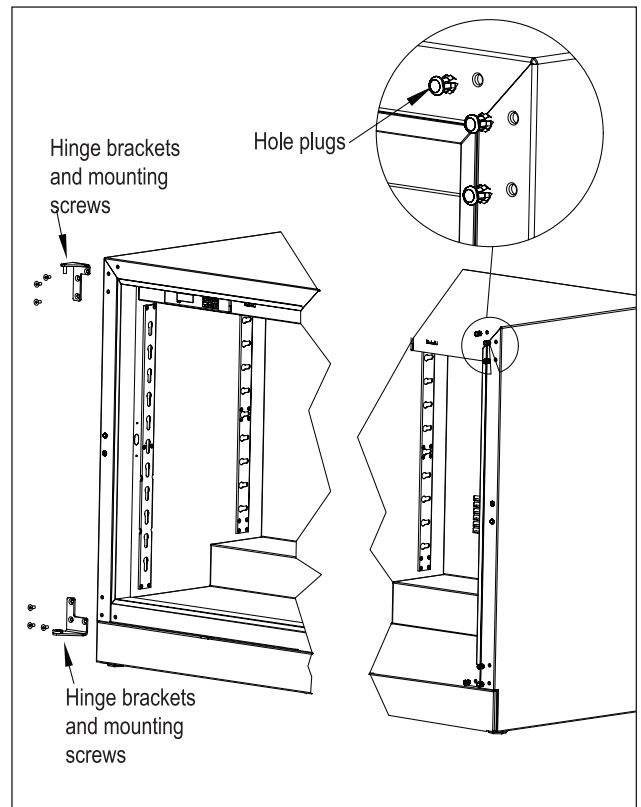

Figure 4: Hinge Removal
3. Remove top and bottom hinge brackets. Retain screws for later use. See Figure 4.
4. Remove the hole plugs from the top and bottom hinge bracket mounting holes (Figure 4). Place the plug in the holes on the opposite side made vacant by removing the hinges in step 3.
2. To reinstall sliding door, place door in upper track making sure to engage the bracket (Figure 4), lift door up into the track and place into the bottom track.